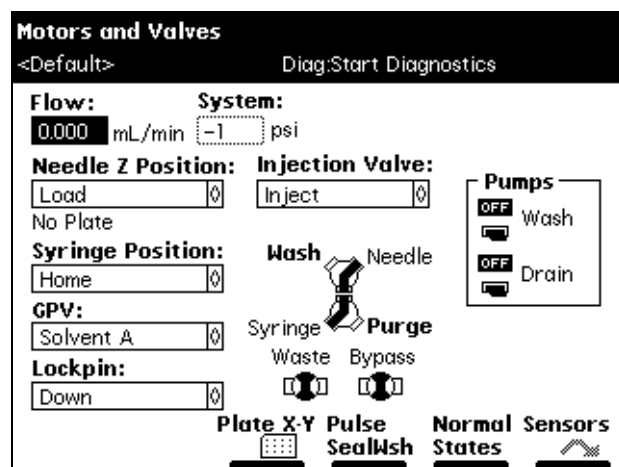

Figure 8-4 Motors and Valves Diagnostics Screen
3. Press the **Motors** screen key to display the Motors and Valves diagnostics screen (Figure 8-4).